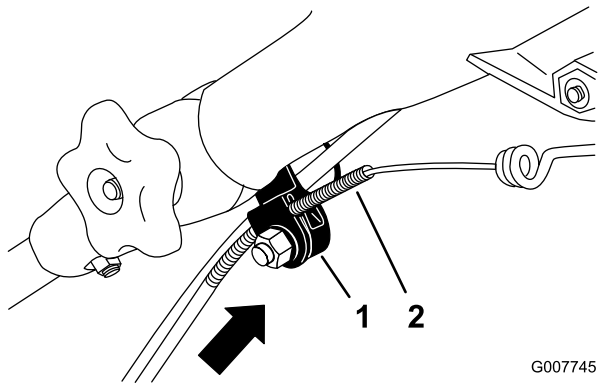

Figure 47
**Note:** You can place a ruler against the upper side of the black cable mount and measure how far the upper end of the cable jacket moves (Figure 47).